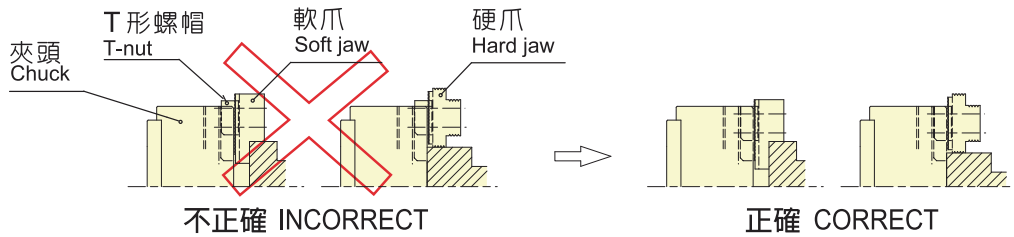

Fig.17
- 設定爪夾位置時必須注意T型螺帽不可以突出主爪。(Fig.17右)
- T型螺帽突出底爪，不正確使用方法將造成底爪T型螺帽的損壞及精度上的不準。(Fig.17左)
- The T Nut must not be protrude from the master jaw. (Refer to Fig.17 right)
- The use on condition incorrect will cause damage to the master jaw and “ T ” nut as well as inaccuracy. (Refer to Fig.17 left)